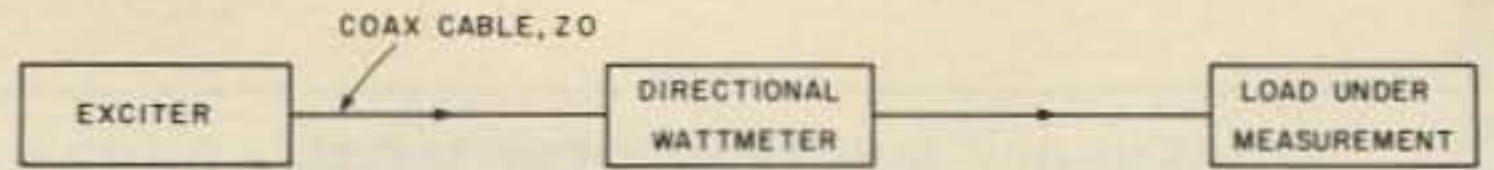

Fig. 4.
1. The measurement circuit in Fig. 4 was constructed. The vswr of the load was measured and recorded.